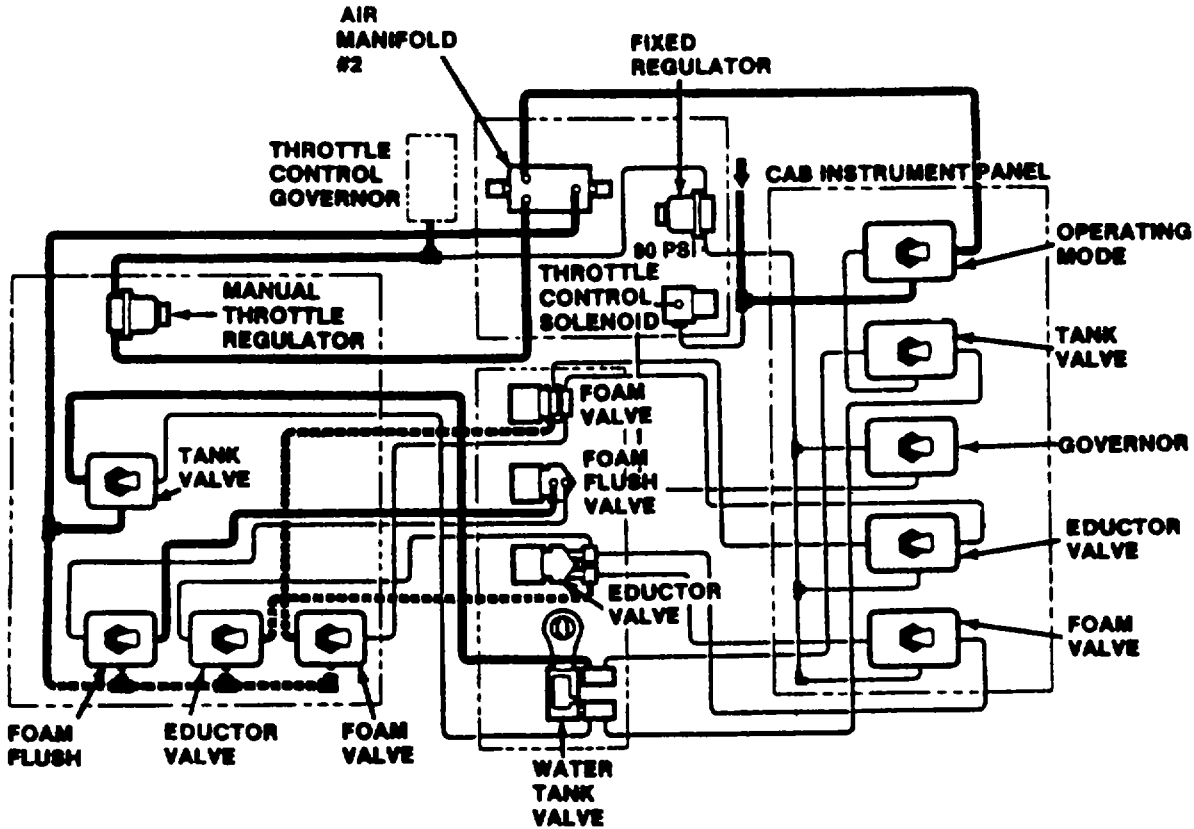

Figure 1-40. Water and Foam Control - Structural Mode
(1) In structural firefighting mode air, manifold # 2 is pressurized, (see fig. 1-40) and the circuit to the pump switch is enabled via the closed contacts of pressure switch (B). The control circuit through valve switch (A) is by-passed thus allowing the water tank valve to be open or closed as required. A diode between the switch (B) and the TANK VALVE OPEN indicator prevents the indicator from being energized when the tank valve is closed.
(2) When the pump is switched ON, the PTO solenoid valve is energized. Pressurized oil from the transmission engages the PTO clutch and triggers the oil pressure switch. This causes the PUMP ENGAGED indicator to illuminate. The pressure switch (C) is open, triggered by air pressure in manifold # 2 (see para. 1-19 f.) and the throttle control solenoid valve (L) is de-energized in this state automatic throttle governor control is locked out.
(1) With the mode switch selected to structural firefighting mode (see fig. 1-40), air pressure is provided via manifold #2 to the manual throttle regulator. Air pressure is also provided to the water TANK VALVE switch and the foam control switches on the structural control panel.
(2) The water and foam control switches in the cab are isolated. The water tank valve as well as the foam control valves can only be opened and closed from the structural control panel.
(3) When the pump is switched on (see para. 1-19d.), water flow and pressure is regulated by adjusting the manual THROTTLE regulator. Refer to paragraph 1-13 for details of throttle operation.